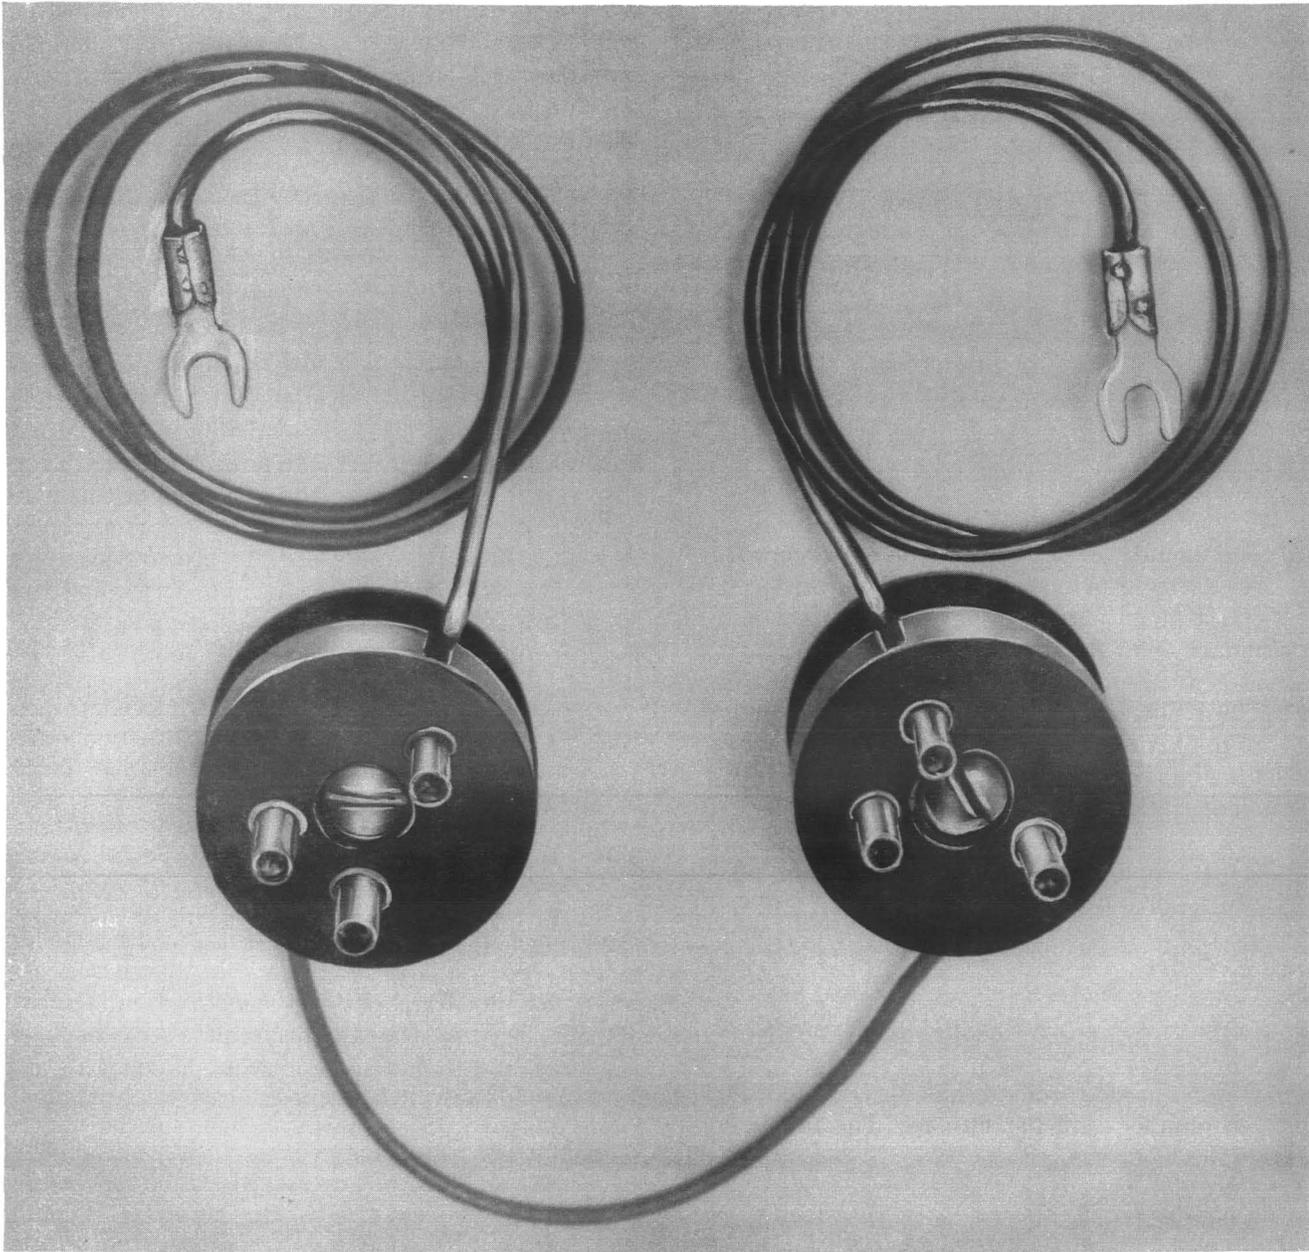

Fig. 4—KS-21428, List 13 Battery Harness
- (1) A ♦KS-8588♦ 22-1/2 volt battery drives the control circuit.
- (2) A KS-7105 22-1/2 volt battery operates the totalizer.
- (3) ♦Two KS-14196 45-volt batteries operate the coin relay. They are connected in series with a KS-21428, List 13 battery harness (Fig. 4).♦